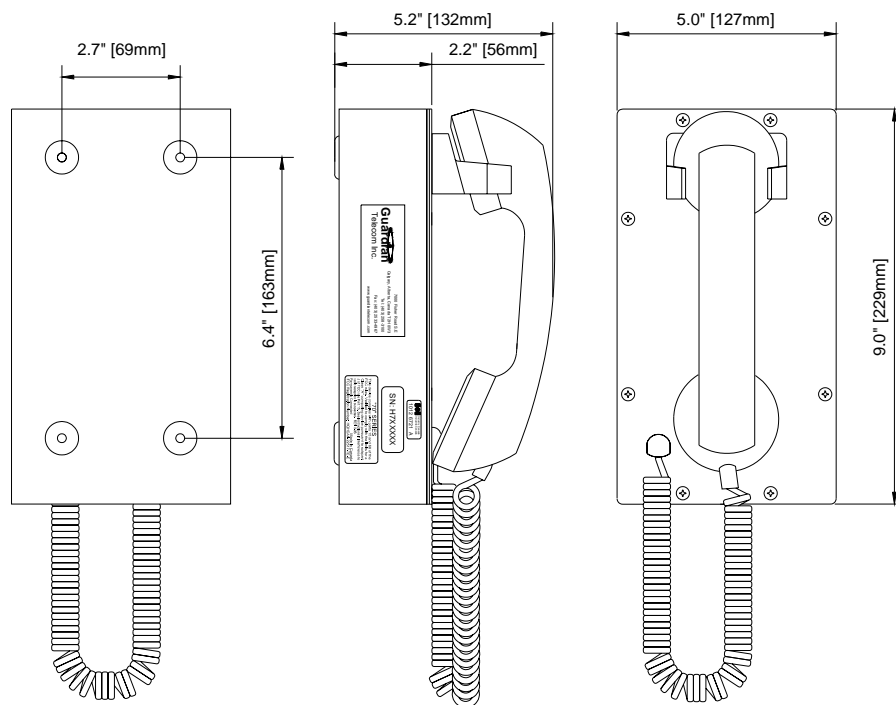

Figure 2 - Overall Dimensions & Mounting
| Figure 2 - Overall Dimensions & Mounting..... | 5 |
- Remove the eight (8) cover screws from the front of the unit and carefully remove the front cover assembly. NOTE that the handset and all electronics are attached to the front plate. The front cover may be separated from the back box by disconnecting the harness plugs.
- Attach the back box to the wall at the desired location using four (4) #8 screws. If weather resistance is important in your application select washers that will assist in sealing the mounting holes.
*See: Figure 2 - Overall Dimensions & Mounting.*